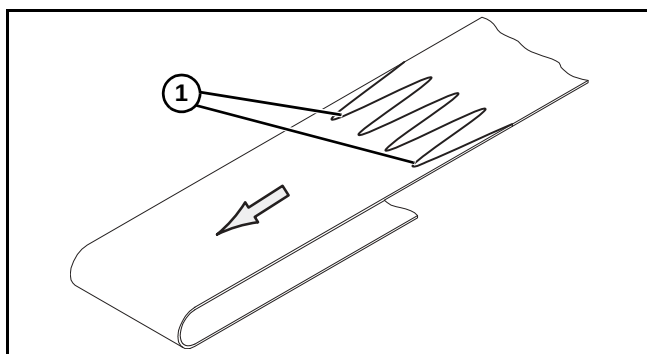

Figure 32
1. Orient the conveyor belt so that the splice leading fingers (Figure 32, item 1) point in the direction of belt travel, indicated by the label (Figure 31, item 1).